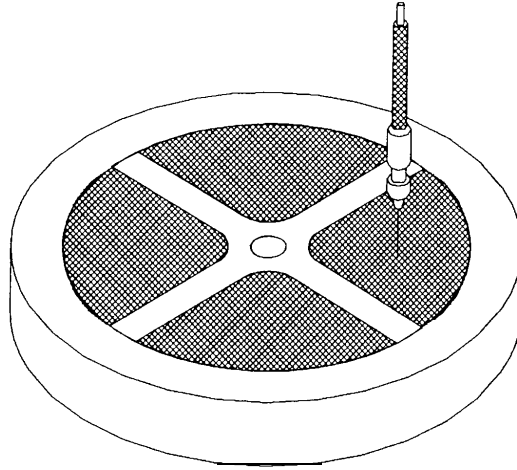

Figure 5. Wire Gauge Cannot Pass Through Flame Arrester
10. () A $\emptyset.018$ inch wire gauge cannot pass through the openings of the flame arrester core as shown in Figure 5. The procedure for making this inspection (dated August 5, 1985) is attached.